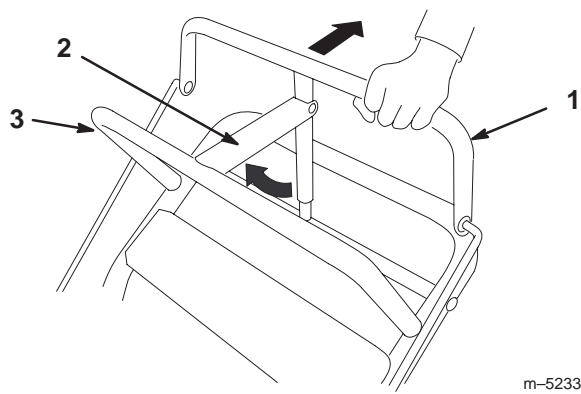

Figure 16
1. Pull the upper control bar (Fig. 16) rearward and hold it in this position.
2. Lift the parking brake lock (Fig. 16) up and gradually release the upper control bar. The brake lock should stay in the set (locked) position.